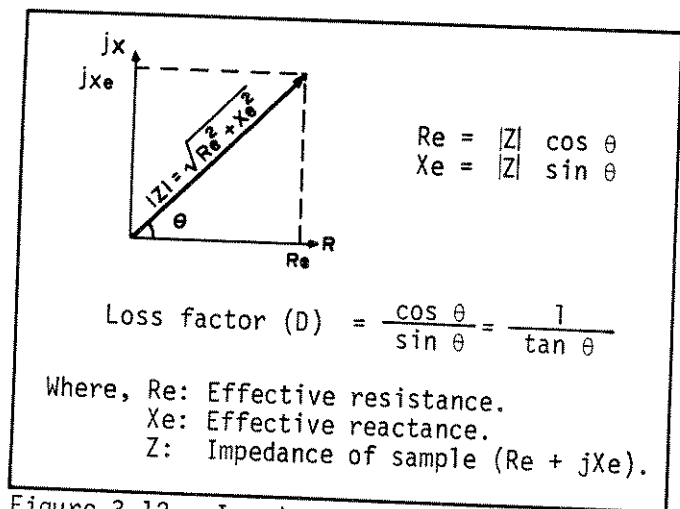

Figure 3-12. Impedance Vector Representation.
Impedance of a component can be expressed in vector representation by a complex number as shown in Figure 3-12. In such representation, the effective resistance and effective reactance correspond to the projections of the impedance vector $|Z| \angle \theta$, that is, the real (R) axis and the imaginary (jX) axis, respectively.